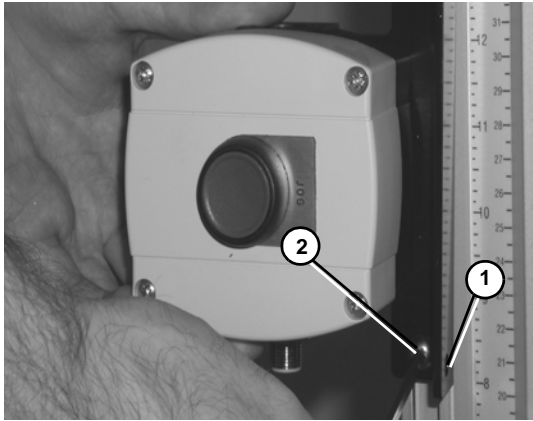

Figure 9
2. Partially thread controller lower mounting bar (Figure 9, item 1) to t-bar with screw (Figure 9, item 2).